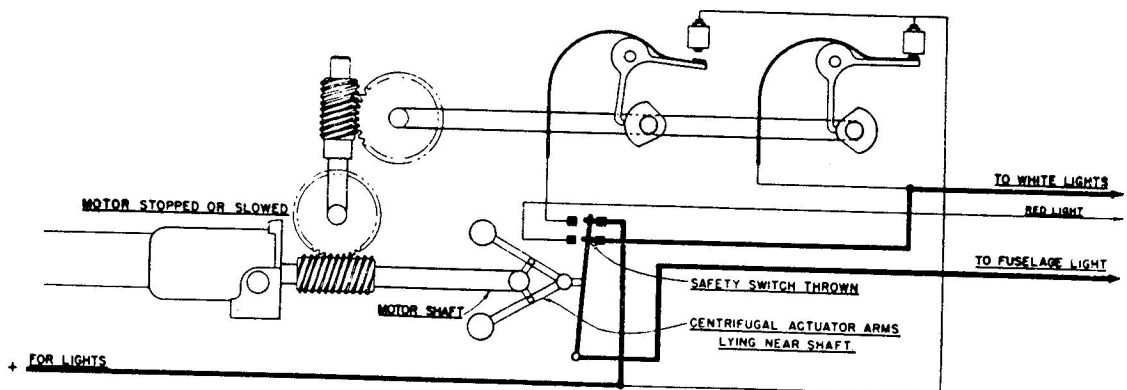

Figure 4-5 - Position Light Flasher, Functional Diagram, Showing White Light And Fuselage Light On Continuously, Assemblies 452061 And 452062
3. Assemblies 452061 and 452062 are designed to connect the third light circuit, which normally flashes with the red light circuit, to the power circuit in the event the motor falls below its normal speed. The circuit for these two assemblies is shown in figure 4-5.